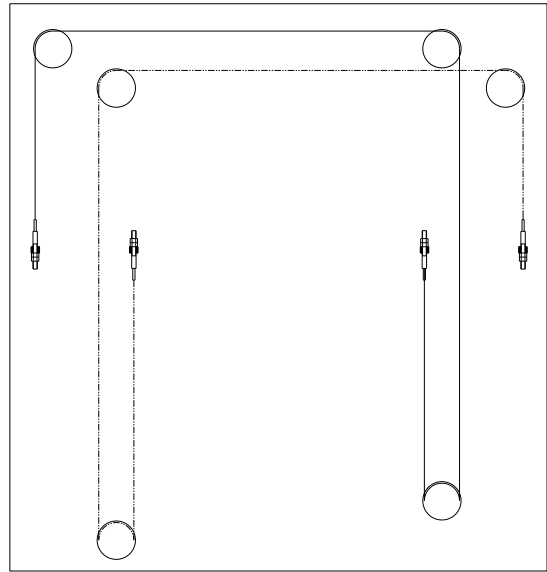

Fig. 34
- ◆ Install the synchronization cable according to **Fig.34**.